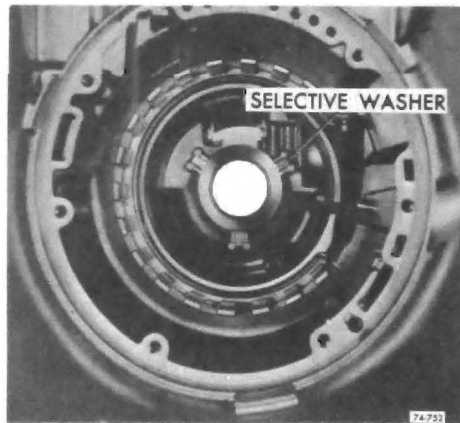

Figure 76-752
7. Lubricate and install gear selective washer into slots provided inside rear of transmission case. See Figure 76-752.